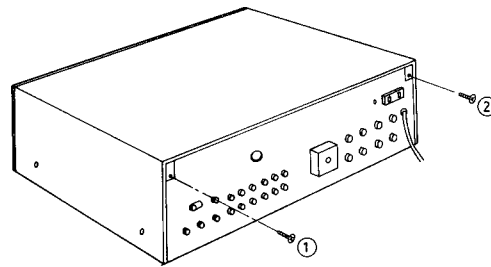

Fig. 1
1. Remove the two cabinet mounting screws (nos ①, ② screws in fig. 1).